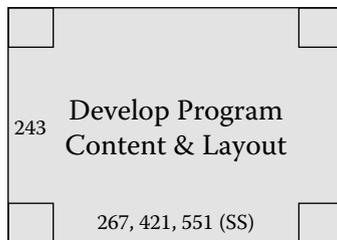

Figure 20.15 Their prerequisites.
- Step 4: In establishing the prerequisites during Step 4, your team members will develop their activity’s relationships — their prerequisites. They will refine their activities’ Post-Its (Figure 20.15).